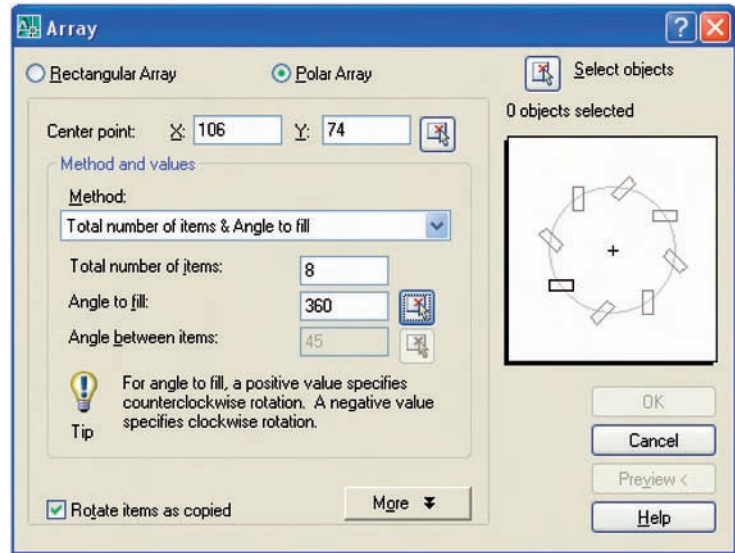

Fig. 5.20 Second example – **Array** – settings in the dialog
2. Call **Array**. The **Array** dialog appears. Make settings as shown in Fig. 5.20.